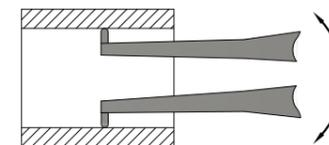
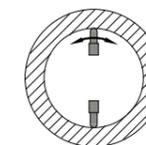

Fig.3
Fig.4
- During measurement, press handle to make distance between two measuring heads less than the hole's diameter. And then put caliper gage into the measured hole, release handle to make measuring heads to contact the hole completely, shake caliper gage gently along hole's axial direction and radial direction to find the minimum reading in axial direction(Fig.3) and the maximum reading in radial direction(Fig.4), then get the result. When measuring width, it is to find minimum reading to get the result.